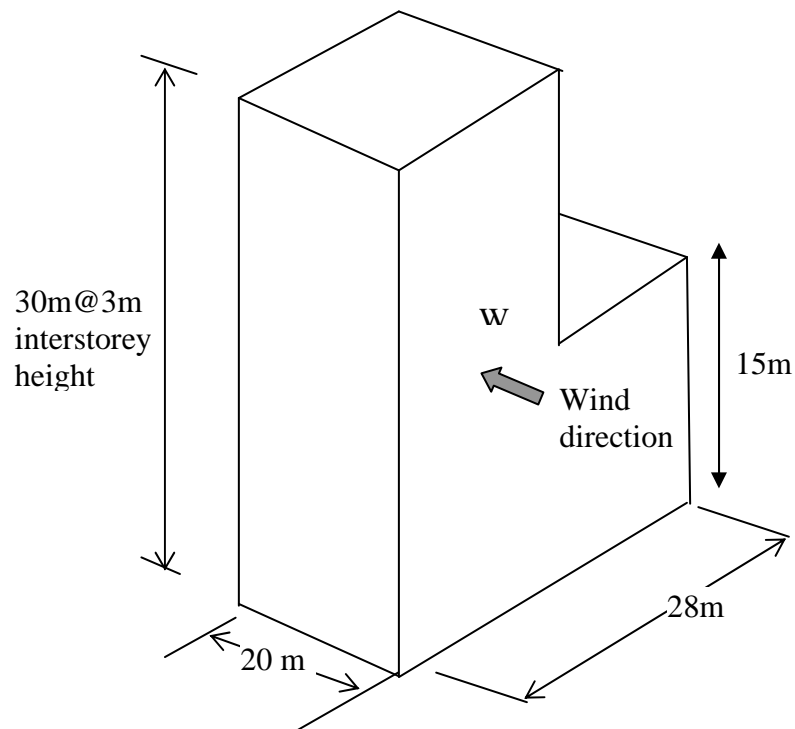

Figure 2
- b) A tall building as shown in Figure 2 is situated terrain category 2 with basic wind speed of 32.5 m/s^2 . Calculate the value of design wind pressure on the W(windward) surface at level 15m and 30m. Design data can be extracted from MS1553 (2002). [15 Marks]